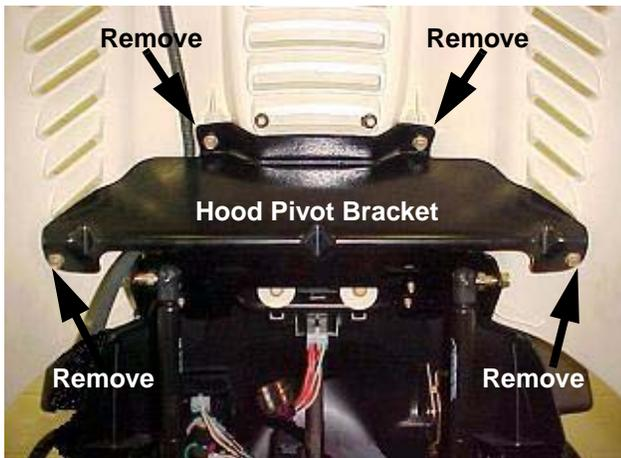

FIGURE 2
6. Remove the four (4) screws that secure the hood to the hood pivot bracket & remove hood. Figure 2.